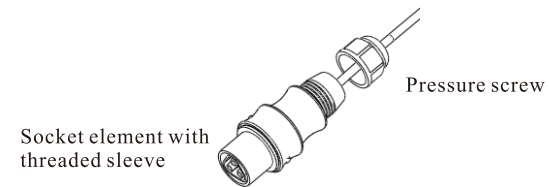

Figure 17
Step4: Screw down the threaded sleeve (Figure 17).